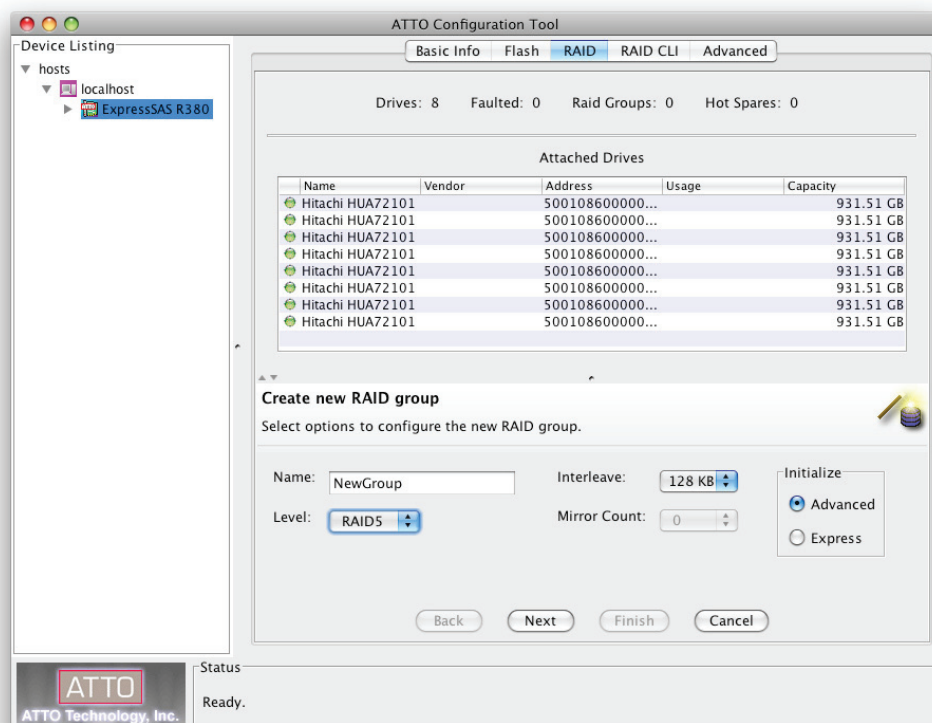

Figure 11
2. Select the first set of options to configure the new RAID group. See **Figure 11** on page 12.